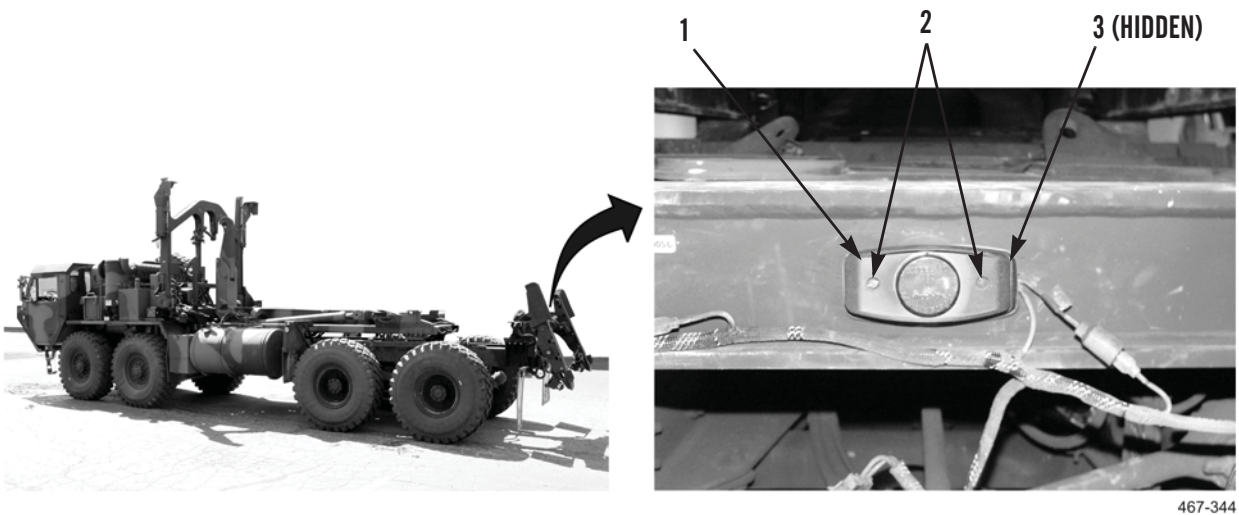

Figure 3. Slider Beam Light Cover Removal.
1. Remove two screws (Figure 3, Item 2) and light cover (Figure 3, Item 1) from light (Figure 3, Item 3).